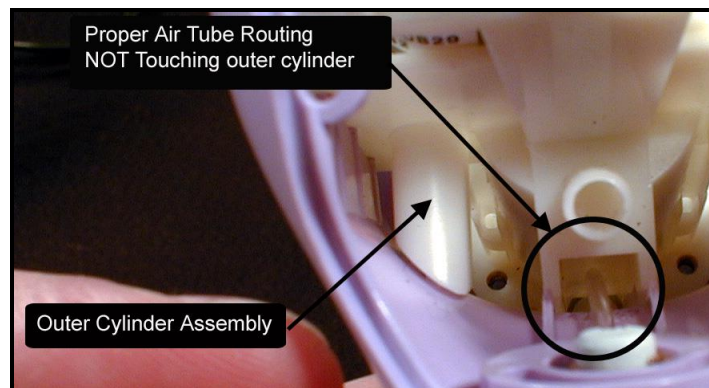

Figure 11 Air Tube Route through Outer Cylinder (not touching)
10. Position the Air Tube in the Spring Retainer Plate so that it is routed as shown in Figure 11.